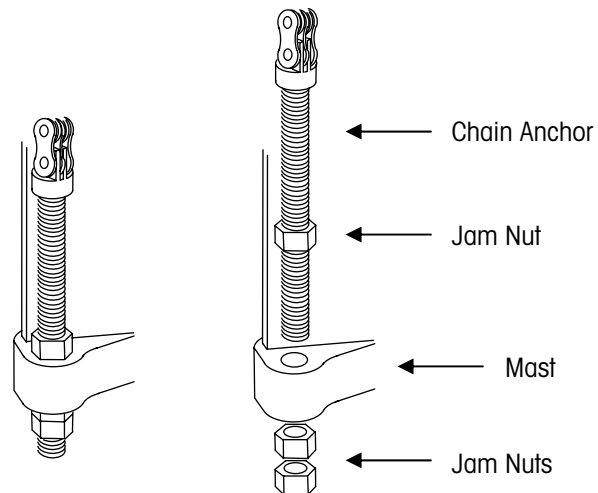

Figure 2-9: Chain Anchor Assembly
14. Remove the lower nut from each chain anchor and insert the anchor into the hole in the mast, below and behind the chain pulleys. Place the lower nut on the threaded anchor and tighten it until both it and the upper nut are tight against the mast (see Figure 2-9). You will need to adjust the anchors later, so do not tighten the nuts too much. Make sure there is no slack in the chains, so that the carriage does not drop when you remove the sling.